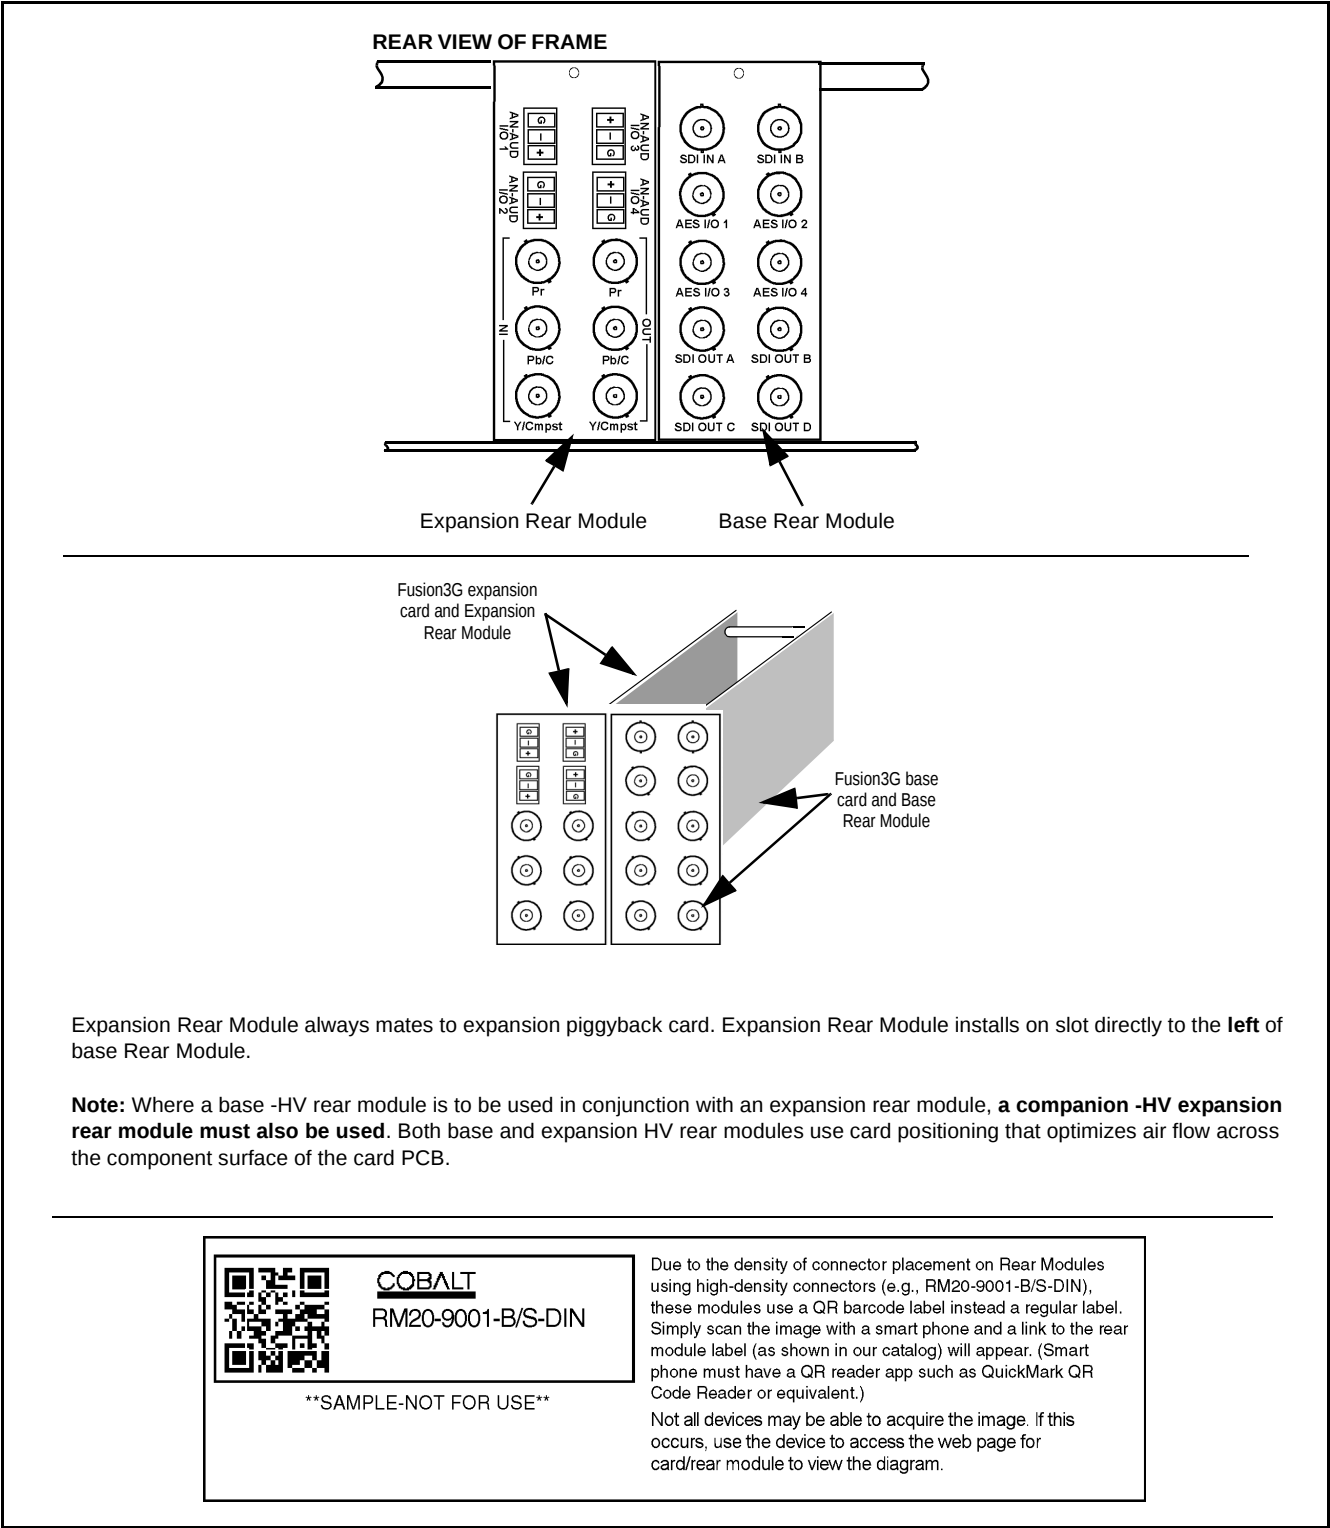

Figure 2-3 9901-UDX with Expansion Rear Module
- Where options are furnished using a piggyback card mounted to 9901-UDX main card, **base** Rear Module must be installed in frame location such that Rear Module interfaces with **base card**. **Expansion** Rear Module must be installed in frame location such that Rear Module interfaces with **expansion (piggyback) card** (see Figure 2-3).
3. If an expansion Rear Module is to be installed, install it adjacent to the base Rear Module as shown in Figure 2-3.
High-Ventilation Rear Modules High Ventilation (HV) Rear Modules offer coaxial connections using miniaturized connectors (HDBNC or DIN 1.0/2.3), thereby freeing-up area for openings to increase ventilation. This is helpful where normal above-frame ventilation space cannot be accommodated, or in cases where the frame is fitted with a large amount of high-power cards (such as the 9901-UDX, and especially when equipped with options requiring a piggyback card such as option +ANAIO). Where a base HV rear module is to be used in conjunction with an expansion rear module, a companion expansion rear module of the -HV type must also be used. (For example, base module RM20-9901-B-HV can be used with expansion module RM20-9901-XB-HV. RM20-9901-B-HV cannot be used with “normal” expansion module RM20-9901-XB.) See Figure 2-3 for other considerations regarding HV rear modules.